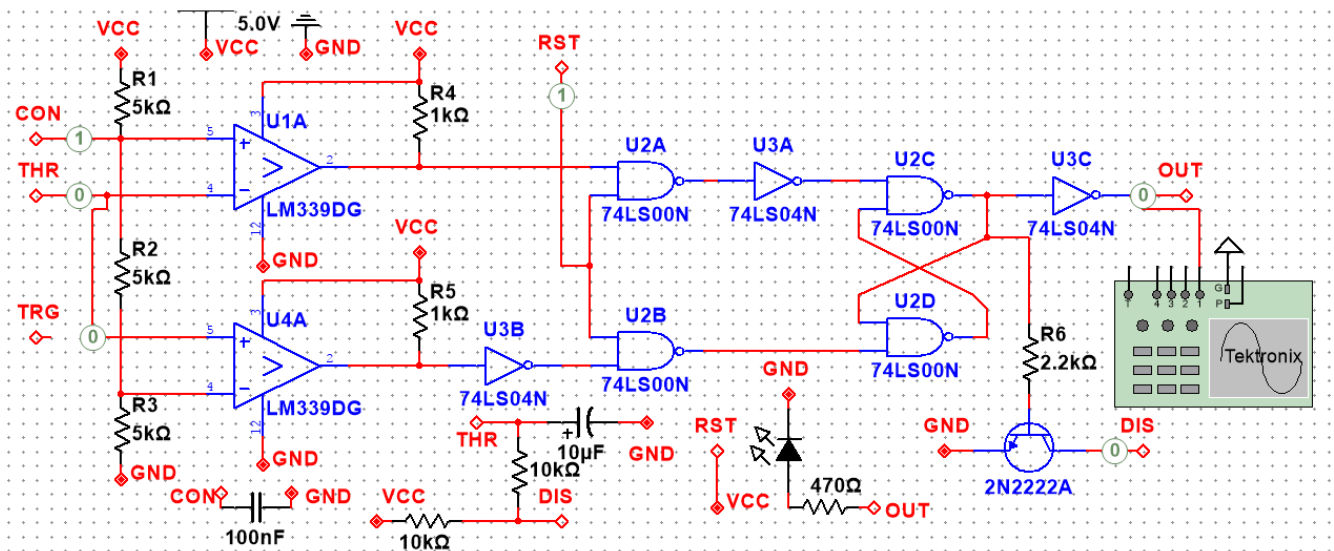
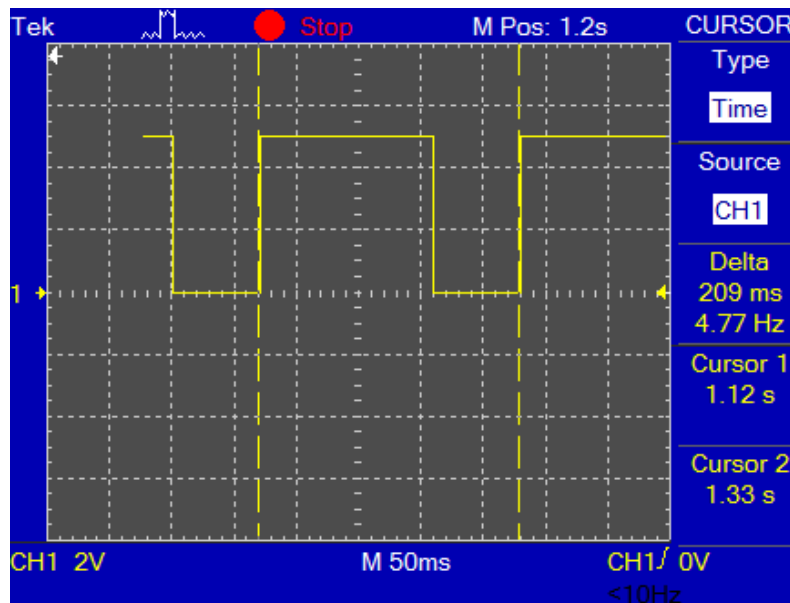

Figure 18: Astable Multivibrator Circuit with 555 DIY Timer
Figure 19: Oscilloscope output, Frequency = 4.77 Hz
7. In procedure 7, we are tasked with building the astable multivibrator from procedure 6, in Multisim. The circuit can be seen in Figure 18. Figure 19 shows the output waveform. From this, we can see the frequency = 4.77 Hz. Our value is different from our Tinkercad results, which could be because of the component differences from Tinkercad to Multisim. We played around with this for a while and could never figure out why there was such a big difference, outside of component differences or a Tinkercad -> Multisim conversion issue.